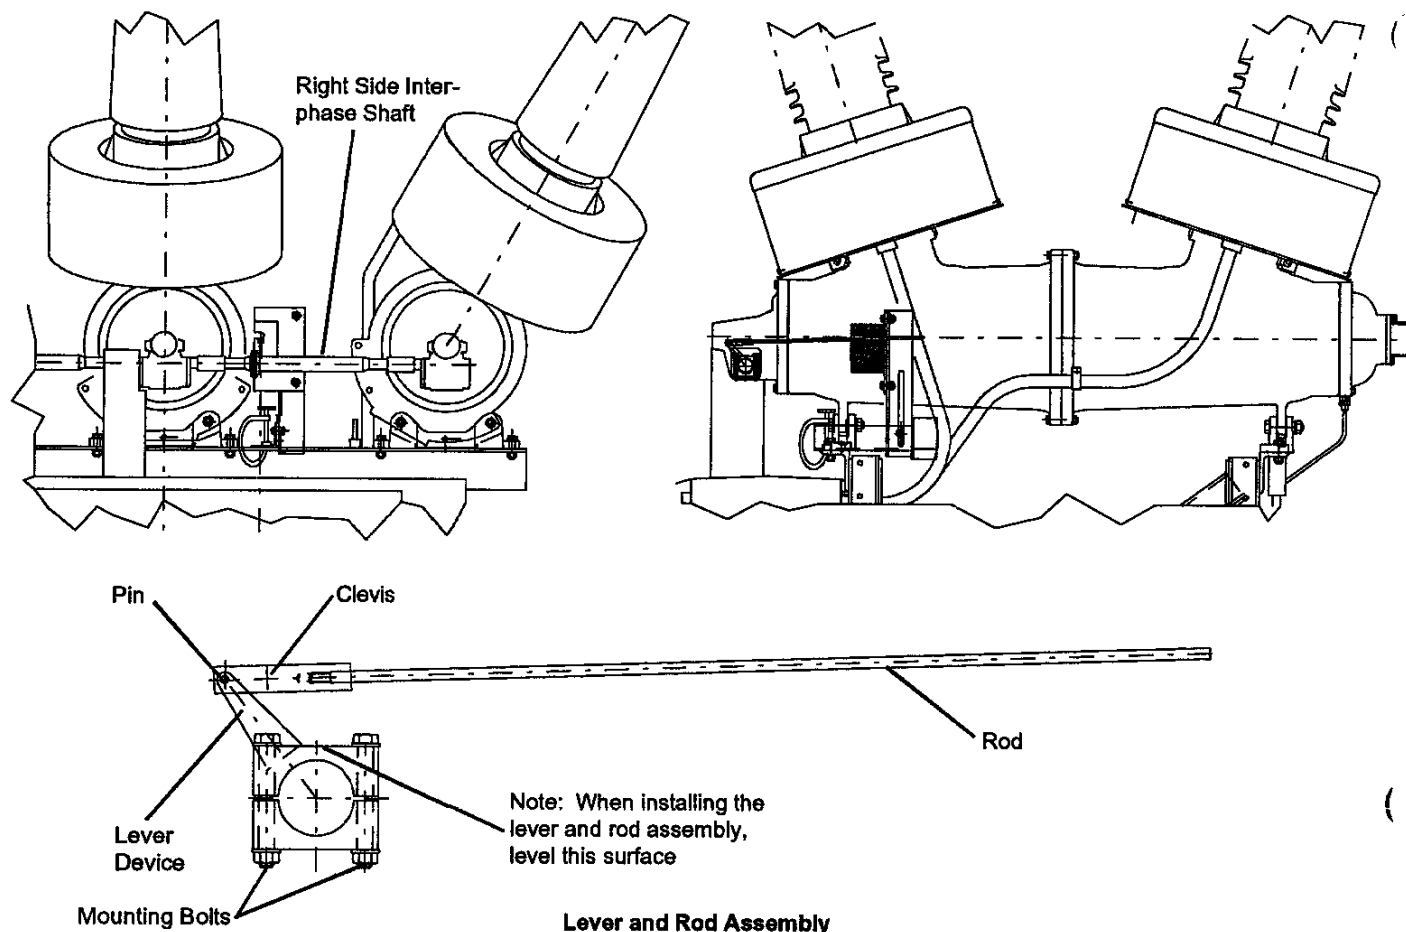

Figure 11
4. Loosely clamp the lever and rod assembly (Fig. 11) to the right side interphase shaft (at approximately the location shown in Fig. 11) using the mounting bolts provided with the kit. (The exact location where the assembly is clamped is not critical.)
5. While tightening the lever and rod assembly mounting bolts, place a level across the surface of the lever device as shown in Fig. 11 to level this surface of the lever device as closely as possible.
7. Mount the transducer mounting bracket and transducer onto the horizontal member of the breaker structure (using C-clamps) as shown in Figure 11 so that the rod of the lever and rod assembly aligns with the slider or rollers, etc. of your transducer.